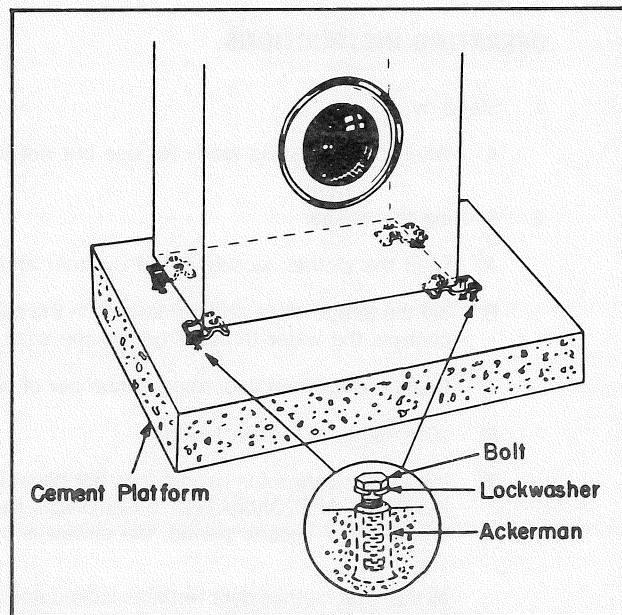

FIGURE 1-4 BOLTING - OPT. LEG BRACKETS
2. Another method is to bolt the optional leg brackets with eight bolts to the base of the unit, leaving the outboard section of each bracket to extend from under the unit on each side (see Figure 1-4). These extended sections are then bolted to the floor or supporting members. The optional leg brackets are available through your distributor and not furnished with washers.